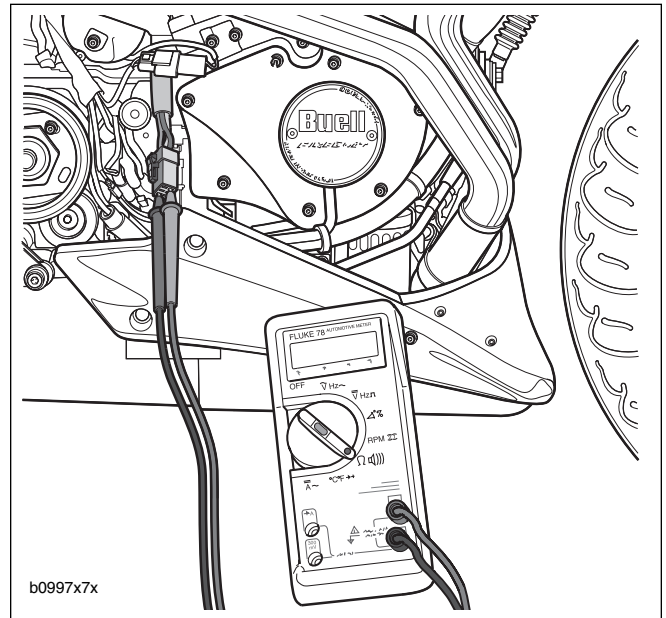

Figure 7-30. Check for Stator Resistance
4. See Figure 7-30. Remove ground lead. Check resistance across stator sockets 1-2, 2-3 and 3-1.